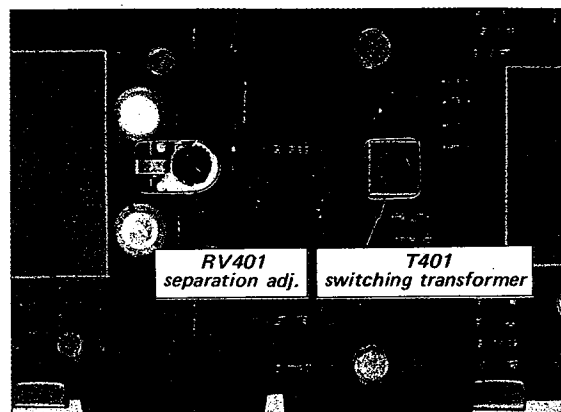

Fig. 3-9. Parts location
2. Precisely tune the set to the S.S.G's carrier frequency then turn the top core of switching transformer T401 (see Fig. 3-9) to obtain maximum output at the left channel. Note that this adjustment is closely related to stereo distortion.
5. The output-level to residual-level ratio represents the separation. Adjust separation adj. control RV401 (see Fig. 3-9) for minimum residual level. Check the right channel for separation. Usually, about an 8 to 9 dB difference in channel separation exists. Re-adjust RV401 for minimum difference between